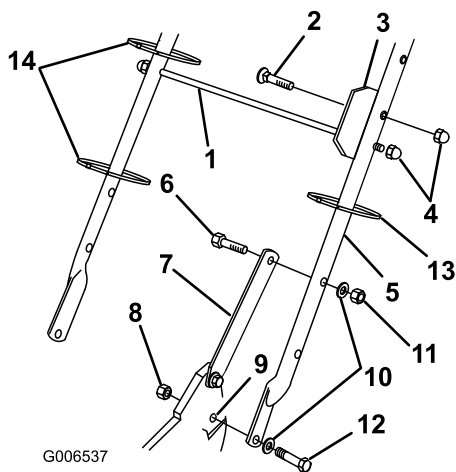

Figure 3
(5/16 x 1-1/4 inches), washers, and thin locknuts (5/16 inch) (Figure 3).
- Secure the handle latches to the handle with 2 bolts (5/16 x 1-1/2 inches), washers, and locknuts (5/16 inch) (Figure 3).
- Insert the carriage bolt through the bag aligning plate and the second hole from the top on the left side of the handle, and secure it with a cap locknut (Figure 3).
- Slide the bag support rod through the third from the top mounting holes in the handle, and secure each end with a cap locknut (Figure 3).
- Use cable ties to secure the control cables to the handle (Figure 3).